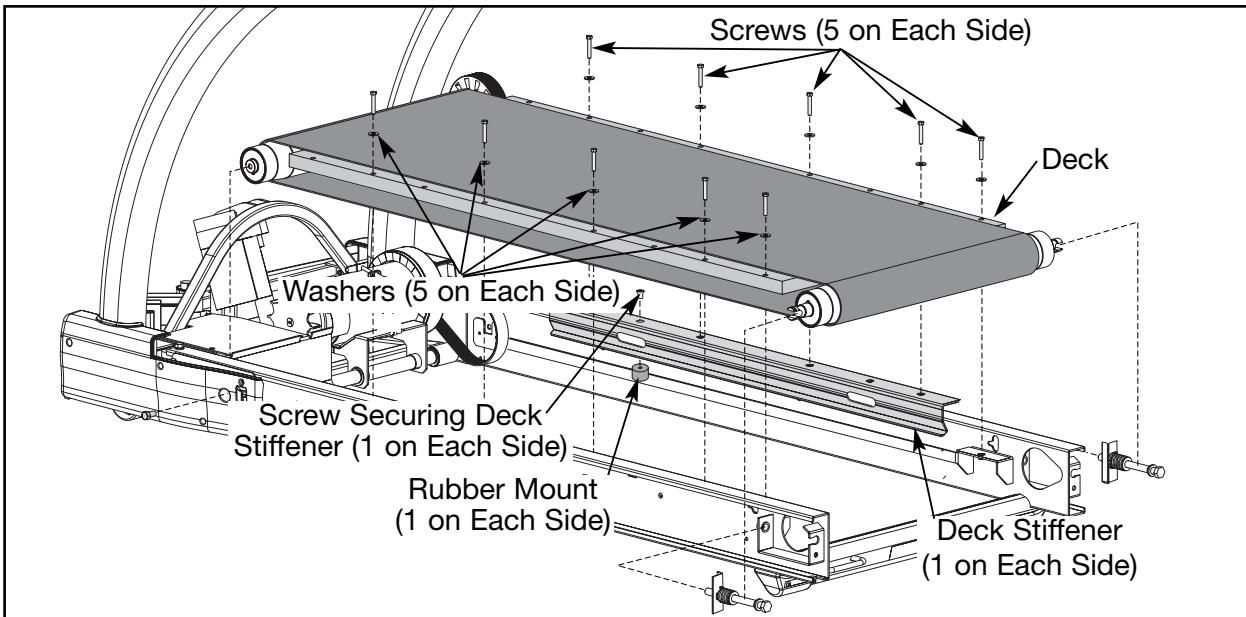

Figure 7
A. Using a 7/16" open-end or socket wrench, remove the ten screws and ten washers that hold the deck in place. See Figure 7. **NOTE:** Leave the deck in place until step 9B.
A. Using a Phillips head screwdriver, remove the screw securing each deck stiffener. See Figure 7.
B. Using a 7/16" open end or socket wrench, attach the ten washers and screws that hold the deck to the treadmill frame. See Figure 7.